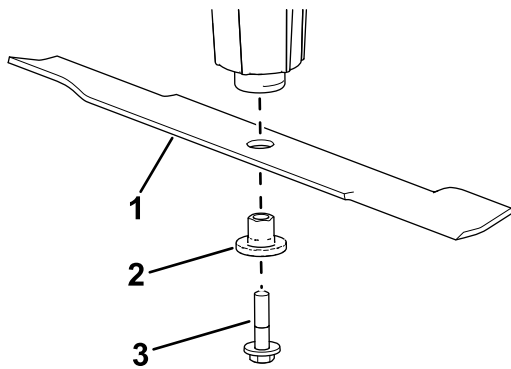

Figure 25
4. Remove the blade bolt, bushing, and blade from the spindle shaft (**Figure 25**).